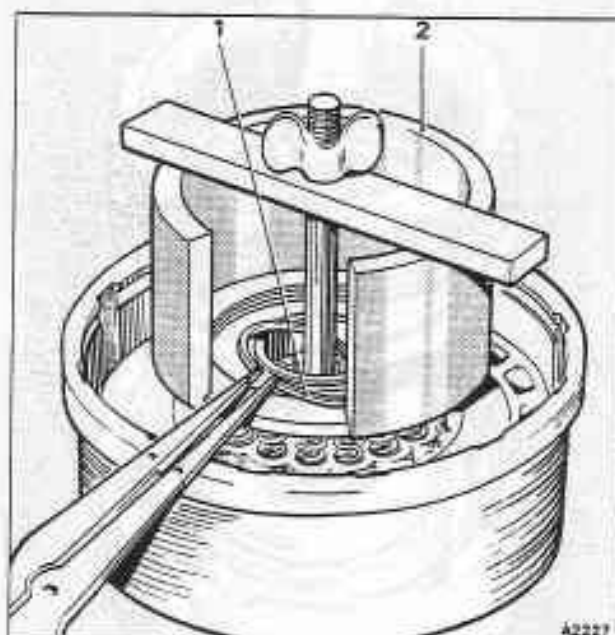

Fig. T19-9 Removing and fitting the direct clutch housing snap ring
6. Using the clutch spring compressor J-2590, compress the clutch release springs and remove the snap ring (see fig. T19-9).